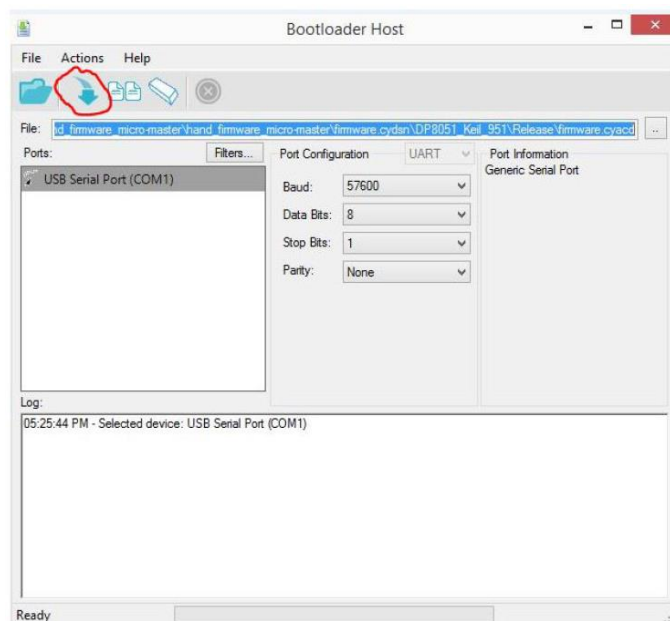

Figure 23: Bootloader Host
2. search ***.cyacd** file that should be uploaded on the board (it is usually in the folder `\CortexM3\ARM_GCC_541\Release`) and set the serial port parameters as the baud rate, the number of bytes, etc.. as shown in Figure 23;